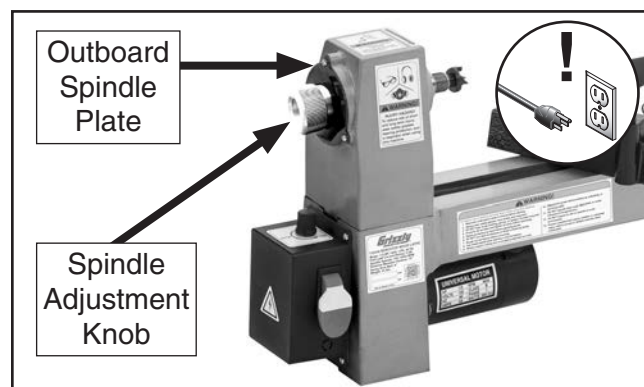

Figure 44. Location of outboard spindle plate and spindle adjustment knob.
2. Remove outboard spindle plate and spindle adjustment knob (see **Figure 44**).